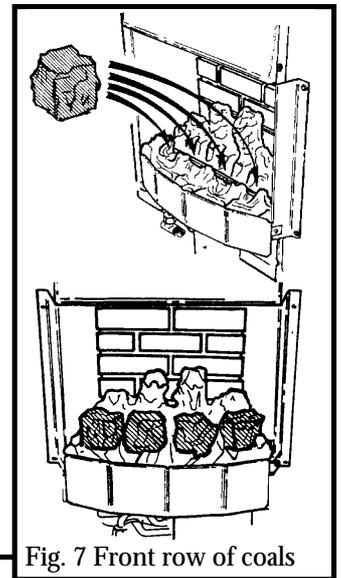

Fig. 7 Front row of coals
4.1 Select the two smallest coals and put them aside until all the other coals are installed. Place four of the medium size coals in the four valleys of the front coal. Place the left side coal so that the pilot flame will be visible. (See figure 7).